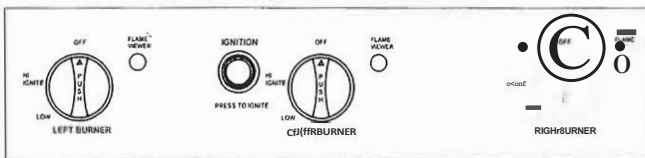

FIGURE 13
- 5- While pushing any burner control knob down, (SEE FIGURE 13, 14, or 15) and turning the knob counter-clockwise to the HIGH position,
- 7- Once you have achieved ignition on the first burner, you may light the others with the same procedure. (SEE FIGURE 13, 14, or 15)
- 8- **Once all burners are lit, close the lid and preheat the barbecue for five (5) minutes before cooking.**
- 9- Once the barbecue has been preheated, adjust the control knobs for proper cooking temperature (SEE FIGURE 13, 14, or 15). **DO NOT LEAVE THE BURNERS ON THE HIGHEST SETTING FOR AN EXTENDED PERIOD - THIS CONDITION MAY DAMAGE YOUR BARBECUE.**
- 10- To shut off the barbecue after use, turn burner control knobs clockwise to the OFF position. (SEE FIGURE 13, 14, or 15) After the flame goes out, turn off the gas supply at either the LP gas cylinder or the Natural Gas line valve.